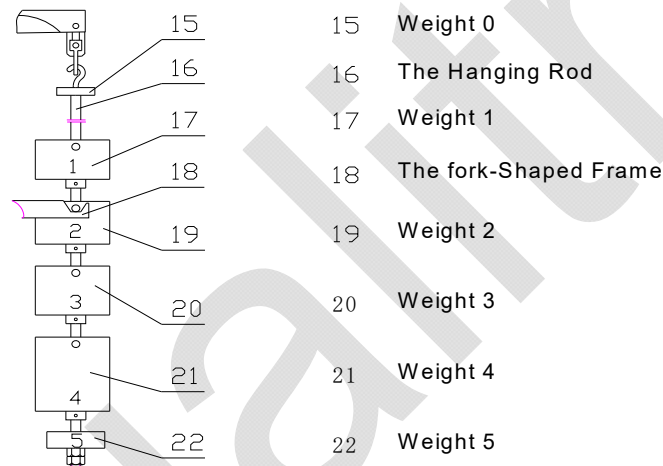

Fig. 3
4. The Installation of the Weight Group (Fig.3)